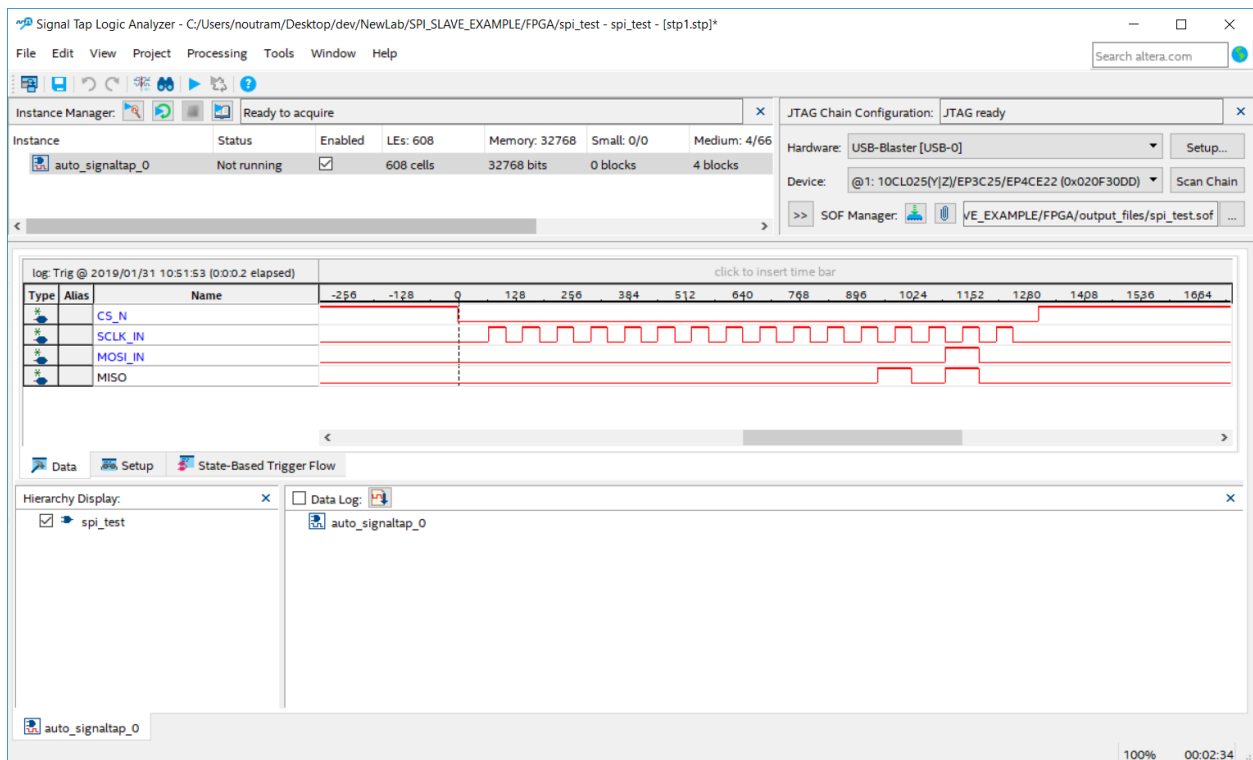

Figure 4. Example Signal Tap output for the SPI example
4. Click the capture button (4) or press F5 to capture the data. You should see a timing diagram similar to that in Figure 4 appear. Note the data on MOSI and MISO will vary depending on timing and the DIP switch positions.